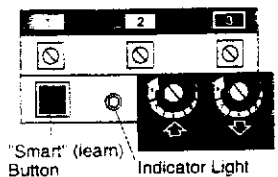

Figure 2
2. Press and release the "Smart" (learn) button on the opener panel. See Figure 2. The indicator light on the panel will begin to blink and the opener lights will flash once.